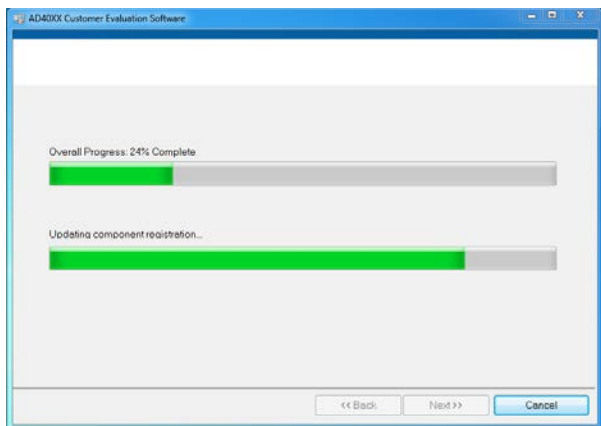

Figure 8. Overall Progress
- A pop-up window opens and displays a bar showing the installation progress, as shown in Figure 8.